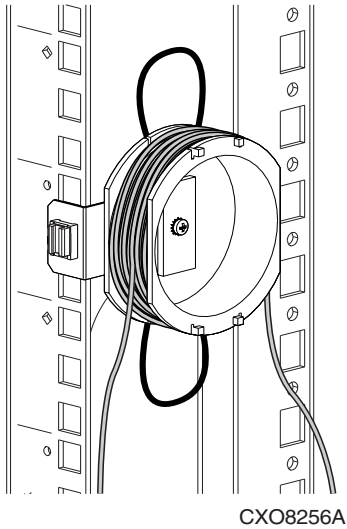

Figure 3: Wrapping the cables
4. Wrap the cables around the spool, as shown in Figure 3.